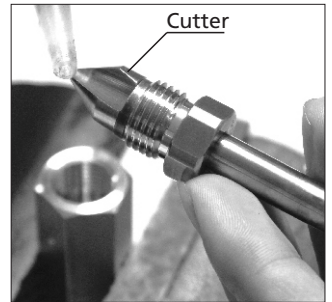

Fig.3-2
2. Apply a moderate amount of cutting oil on the cutting edge of the tool and the cone of the workpiece. (Fig.3-2)